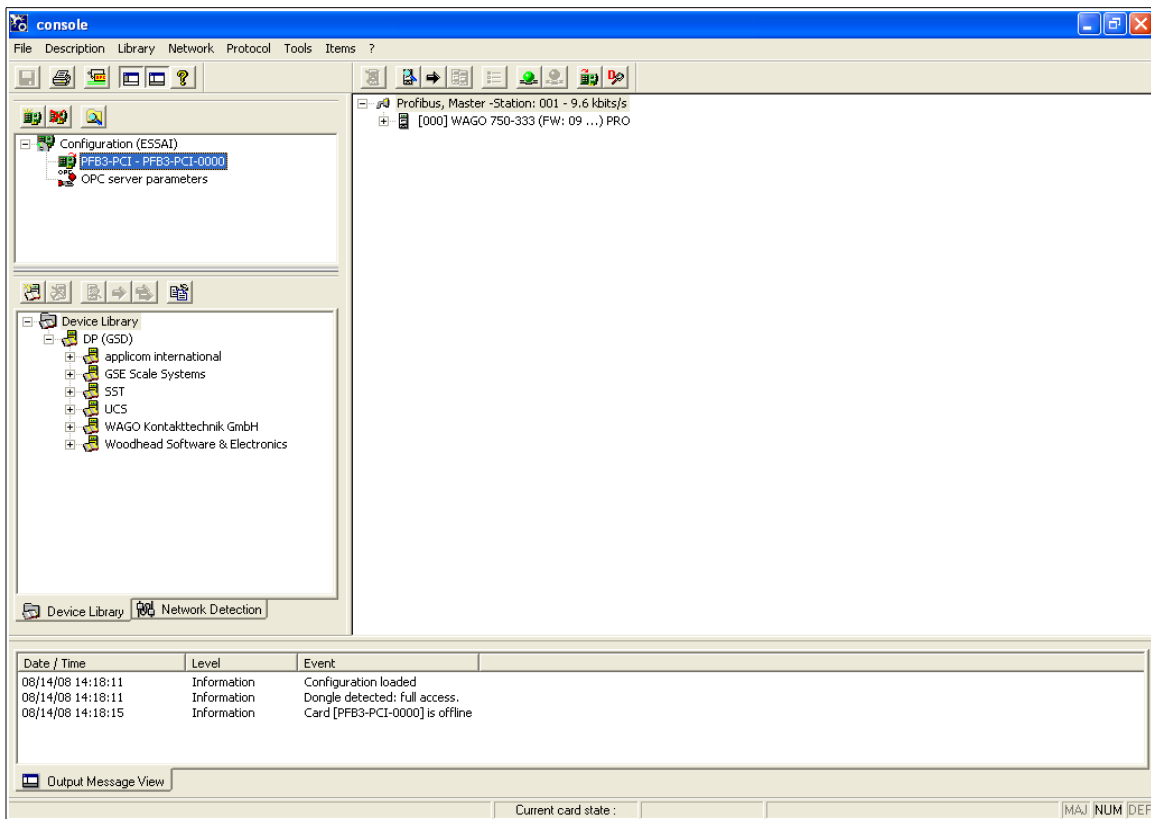

Figure 5
- When all the modules have been added, press OK to update the configuration and get the page in Figure 5. Note that at any time you can change the order of modules using the "Move Up" and "Move Down".